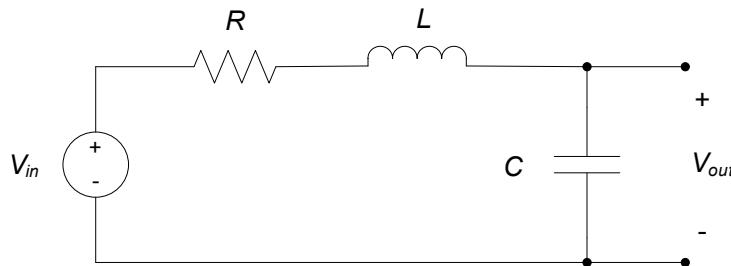

Figure 1. Series RLC circuit.
- ANALYSIS** a. Write the differential equation relating V_{out} and V_{in} for the system shown in Figure 1. Your solution will be a function of the circuit parameters R, L, and C.
Construct the circuit shown in Figure 1, using $C = 100\text{nF}$, $L = 1\text{mH}$, and $R = 1.1\Omega$. (As always, measure the actual resistance values and the capacitance value if you have a DMM which measures capacitance; you may assume that the nominal inductance value is correct. Also, use your DMM to measure the inductor resistance; the non-ideal inductor effects can have a strong effect on your results in this lab assignment.)
For the circuit of Figure 1, determine values of R, L, and C necessary to make the circuit critically damped, with the same natural frequency of the circuit in Part I. The circuit should have a DC gain of one, as in Part I of this assignment.